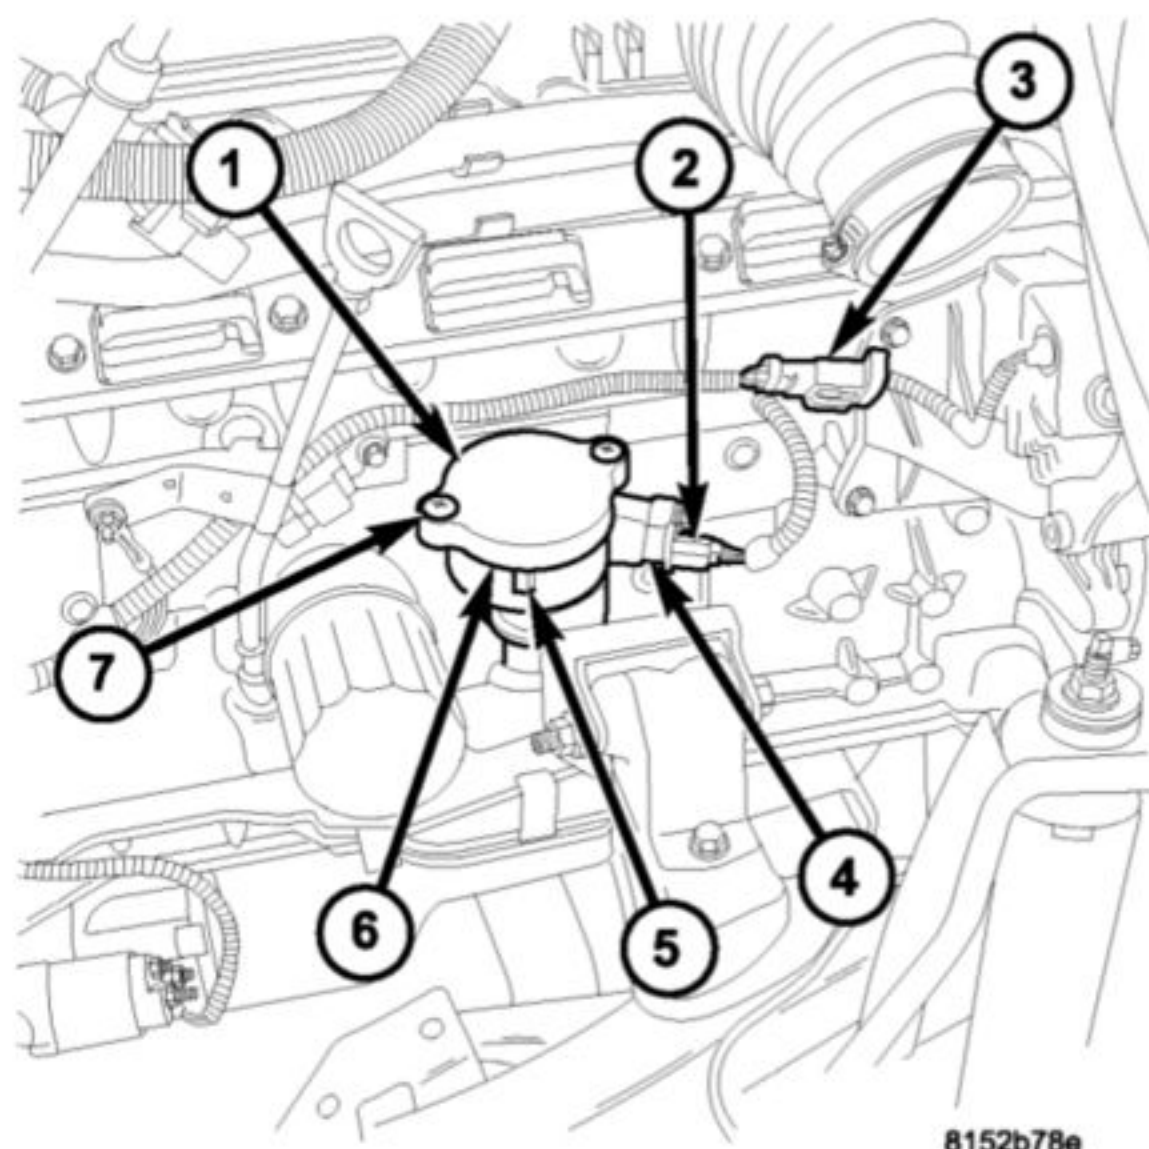

Fig. 13 4.0L CMP LOCATION ('05)
- 7 - COVER SCREWS (2)
The Camshaft Position Sensor (CMP) on the 4.0L 6-cylinder engine (2) is bolted to the side of the oil pump drive shaft housing assembly (5) (Fig. 13).